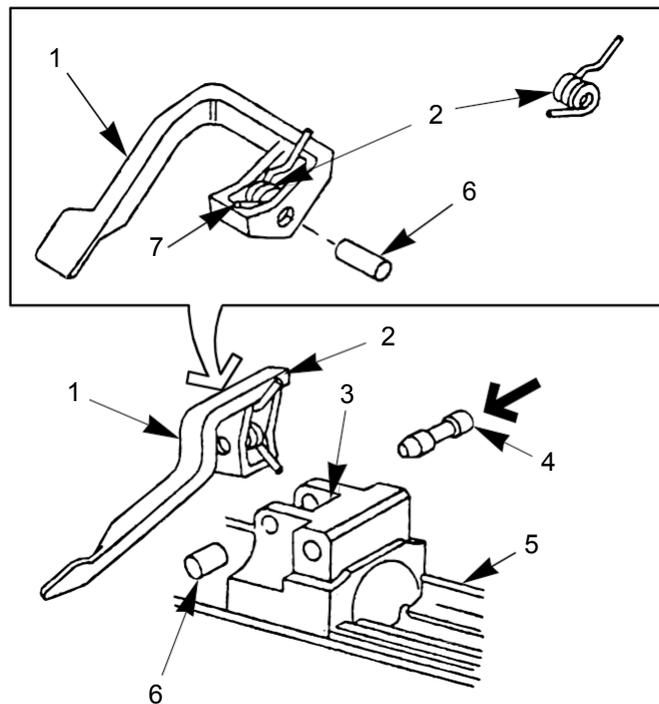

Figure 30. Assembly of Barrel Locking Lever.
1. Place new torsion spring (Figure 30, Item 2) into barrel locking lever (Figure 30, Item 1) with shorter leg (Figure 30, Item 7) toward bottom of recess.
2. Insert aligning pin (Figure 30, Item 6) through barrel locking lever (Figure 30, Item 1) and torsion spring (Figure 30, Item 2) flush with sides, and place this temporary assembly into position on receiver assembly (Figure 30, Item 5, with bent leg of torsion spring (Figure 30, Item 2) hooked under lip of receiver block (Figure 30, Item 3).
3. Install grooved headless pin (Figure 30, Item 4) into receiver assembly (Figure 30, Item 5), from right to left, forcing out aligning pin (Figure 30, Item 6).